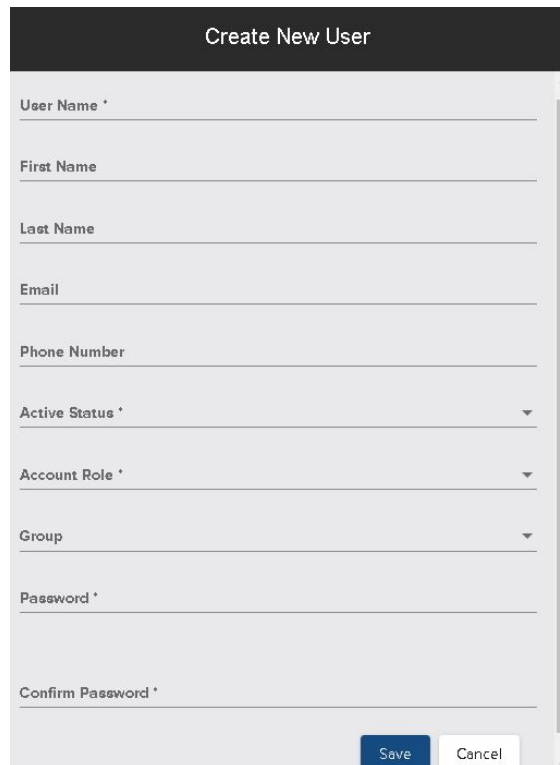

Figure 86: Add Users tab under Administration
2. The **Create New User** window will appear (see Figure 86); fill out the fields.